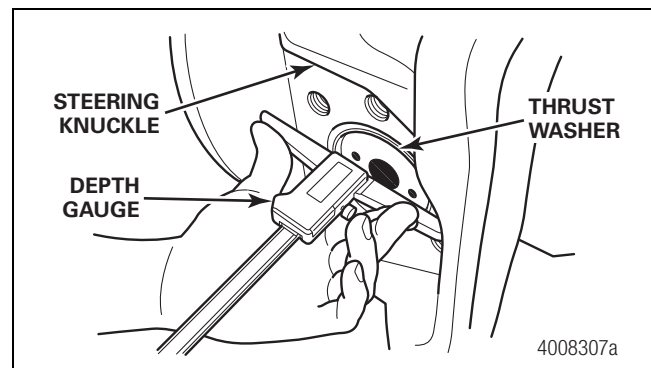

Figure 9.11
4. Use a depth gauge to measure from the king pin boss to the thrust washer face. Figure 9.11.